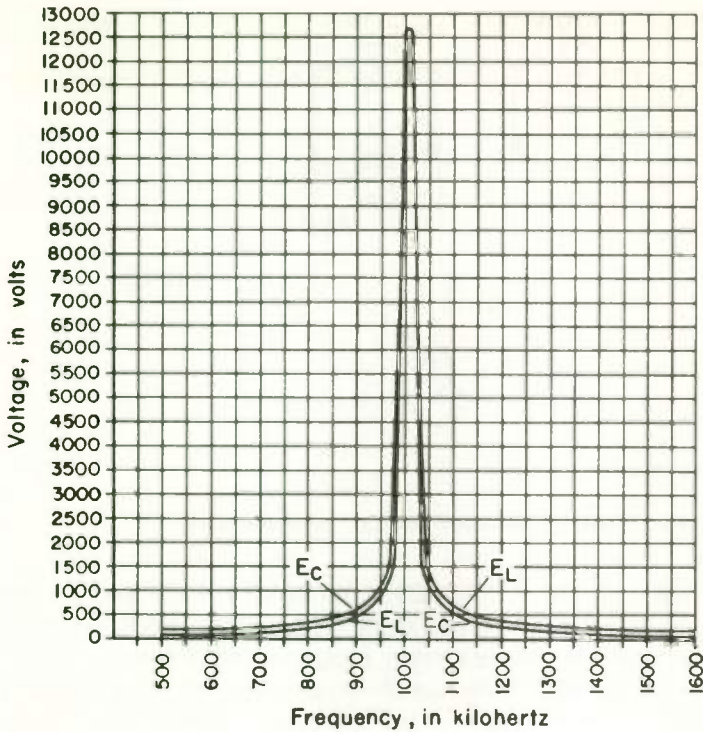

Fig. 7 Variation of voltage across L and C with frequency for the circuit of Fig. 1.
The voltages across L and C are their highest at resonance and go down rapidly as the operating frequency departs from resonance (assuming that the applied voltage doesn't change). Remember that the voltage across X_C is equal to $I \times X_C$. Figure 3 shows how I is much less for frequencies off resonance than at the resonant frequency. Consequently the voltage across C is also much less, perhaps lower than the applied voltage E . The same comment, of course, applies to the voltage across L . Figure 7 shows how the voltage across C and L varies with frequency for the circuit of Fig. 1.
1. Refer to Fig. 7. The voltage across C (within the frequency range of the graph) is at its lowest value at (a) _____ kilohertz. The minimum value of E_C is (b) _____ volts. The voltage across L is at its lowest value at (c) _____ kilohertz, and the minimum value of E_L is (d) _____ volts.
9. The phase angle between the applied voltage and the circuit current at resonance is (0) (45) (90) degrees.
10. The phase angle between the applied voltage and the circuit current, at frequencies below resonance and the point where X is 10 times greater than R , is approximately (a) (0) (45) (90) degrees. The current (b) (*leads*) (*lags*) the applied voltage.
1. (a) 1600 (b) 66 (c) 500 (d) 33 ... Voltage values we give have been calculated. You can not read these values to this accuracy from Fig. 7.